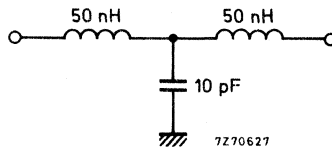

Fig. 11.
- A low-pass filter (Fig. 11) with a cut-off frequency of about 300 MHz has to be inserted between the v.h.f. aerial terminal of the tuner and the aerial terminal of the receiver. Television receivers with a common v.h.f. /u.h.f. connector in combination with a low-pass/high-pass splitter 1) may not need this additional filter.